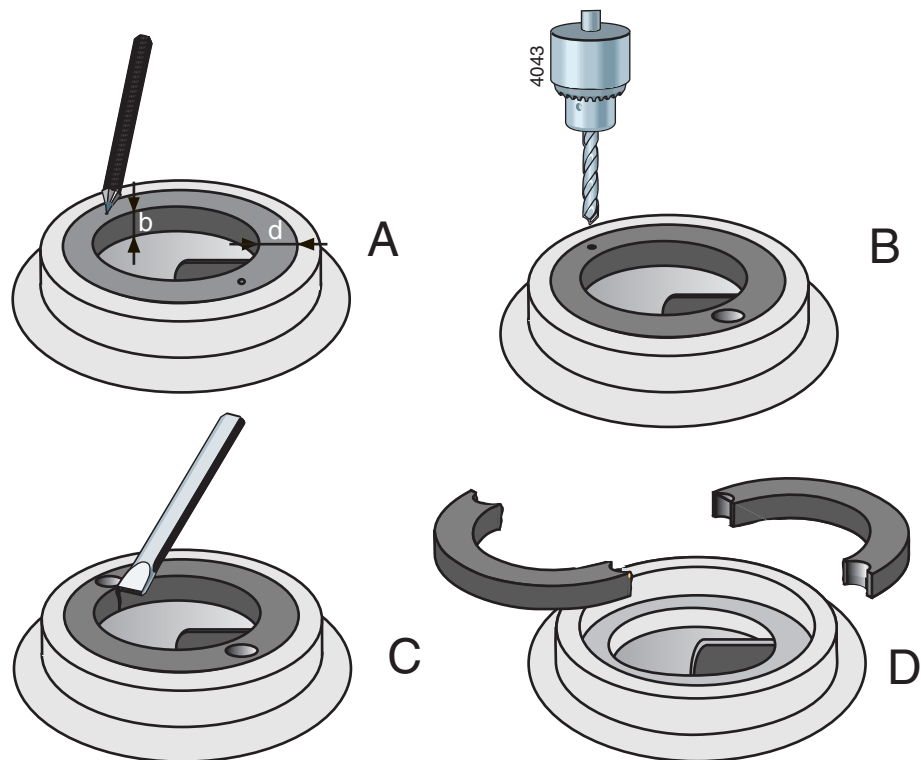

Figure 6: Removal of wear ring.
- 1 Measure the thickness (d) and the width (b) of the ring, see figure 6 A.
- 2 Make a centre hole in the middle of the edge of the ring at two opposite points, see figure 6 B.
- 3 Use a drill with a diameter just a little bit smaller than the thickness (d) of the ring and drill two holes in the ring, see figure 6 C. Don't drill deeper than the width (b) of the ring. Take care not to damage the fitting edge of the pump casing.
- 4 Use a chisel to cut the remaining part of the ring thickness. Now you can remove the ring in two parts from the pump casing, see figure 6 D.